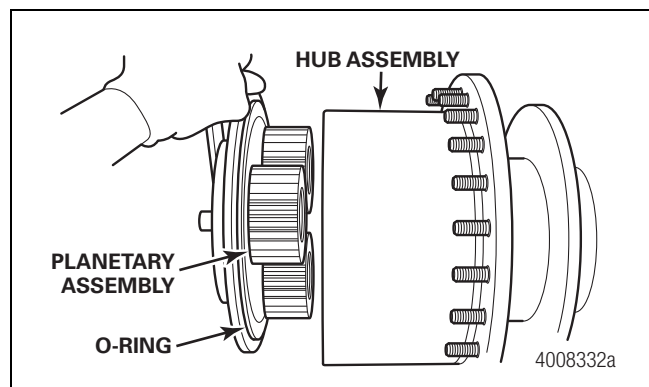

Figure 7.2
2. Use a suitable lifting device to support the planetary assembly. Remove the mounting bolts. Remove the planetary assembly from the hub. Figure 7.2.